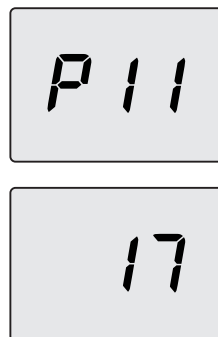

Figure 5.37
- Scroll the various parameters using keys 13 or 14 until the LCD display indicates the letters **P15** and the value of the parameter, indicating entry in "parameter 11" (Figure 5.37).
- By pressing keys 12 and 13 together (Figure 5.35) you will exit without changing the value (return to the parameter list Figure 5.37).